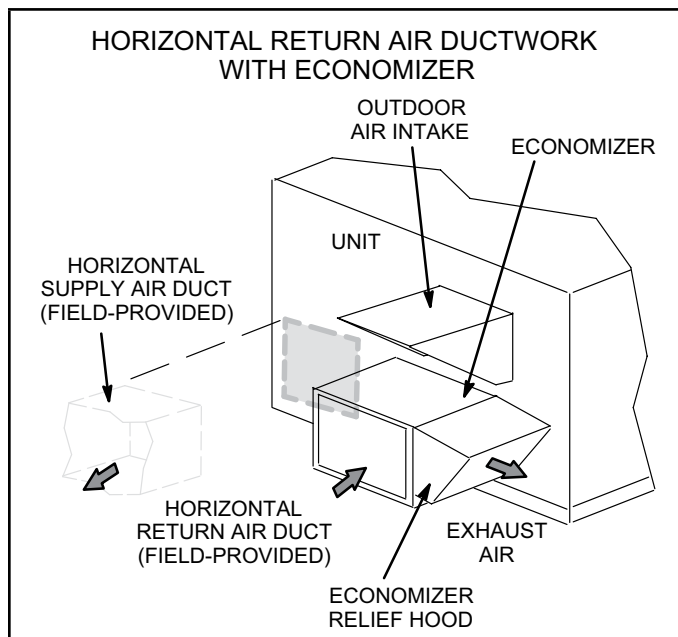

FIGURE 4
- 7 - Cut a 20" wide X 14" high opening in the return air duct and install the economizer relief hood. See FIGURE 4.